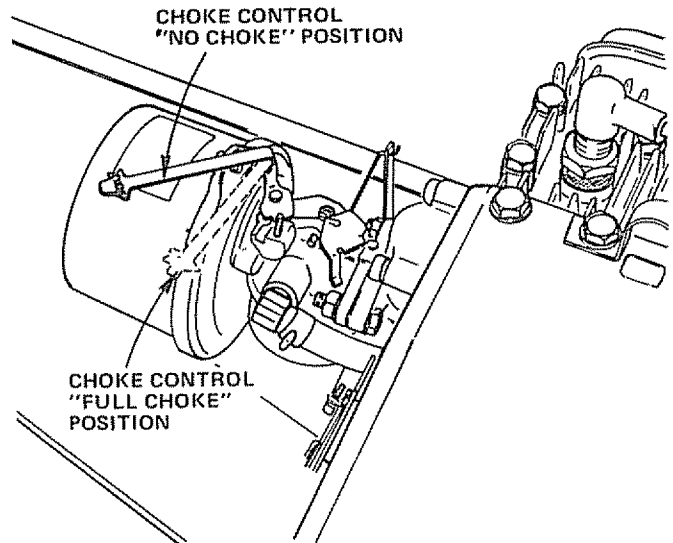

FIGURE 13
- Move Choke Control on engine to "FULL CHOKE" position (Fig. 13).
- Repeat preceding instructions d and e until engine fires and when engine starts, move Choke Control on engine to "NO CHOKE" position (Fig. 13).